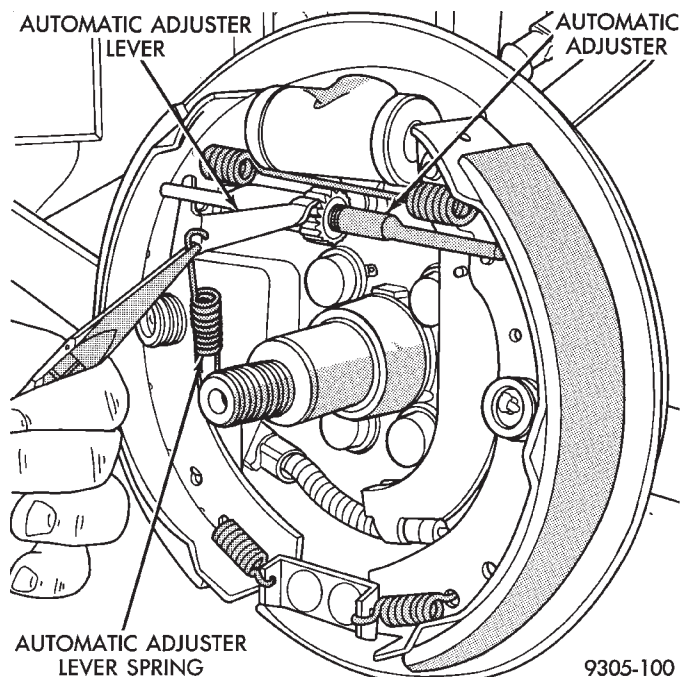

Fig. 7 Remove or Install Automatic Adjuster Lever Spring
(4) Remove automatic adjuster spring from automatic adjuster lever (Fig. 7).